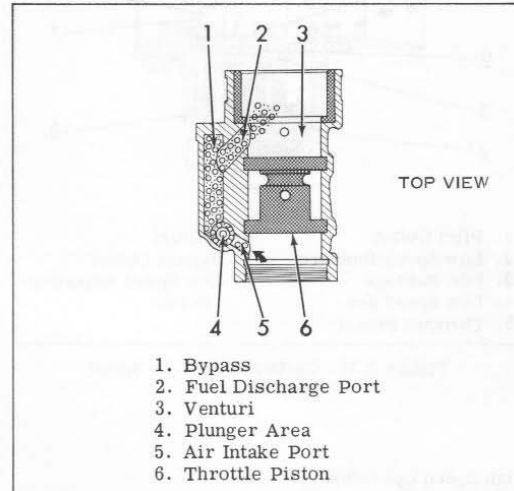

Figure 3.27. Carburetor-Starting Operation
As shown in Figure 3.27, this mixture then flows into plunger area (4) where it mixes further with air coming in through air intake port (5). This mixture is then directed into engine through venturi (3) in the correct air-fuel ratio via fuel discharge port (2).